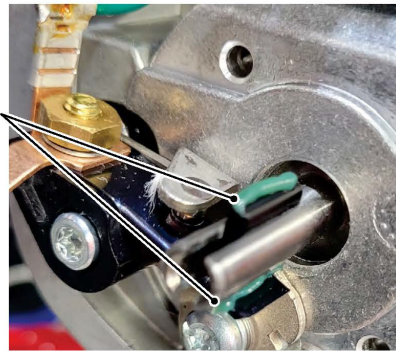

Figure 2 Proper cam grease application
- (a) For Category 1 magnetos per this service bulletin, disassemble the magneto and inspect the cam for cam grease. If no cam grease is present, apply cam grease M1827 or equivalent (Fig. 2), per the latest revision of F-1100 Master Service Manual.